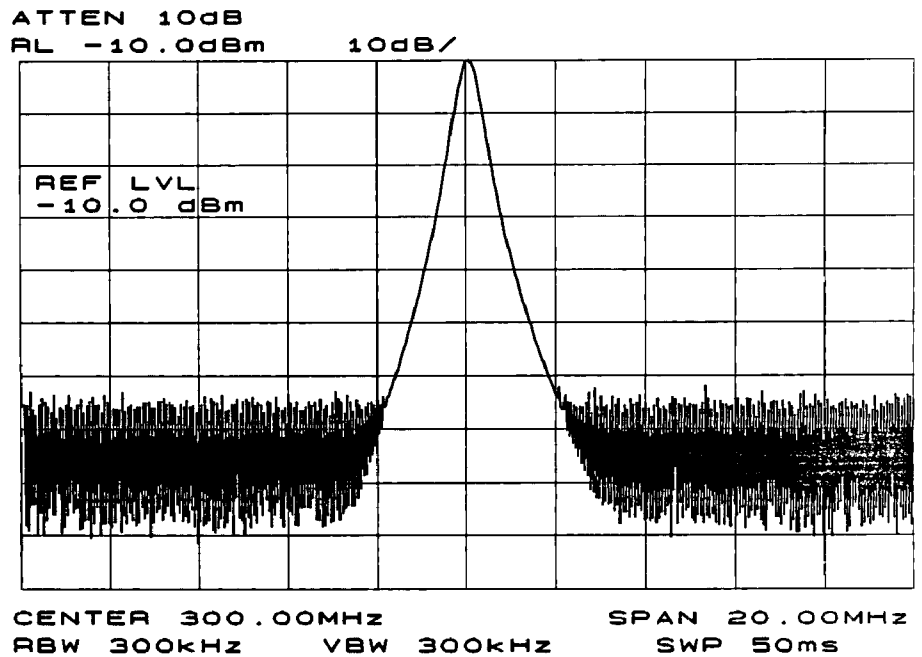

Figure 1-7. Signal Peak Set to Reference Level
- Set the amplitude. Generally, placing the signal peak at the reference level provides the best measurement accuracy. To adjust the signal peak to the reference level (Figure 1-7), press **AMPLITUDE**, then key in **10 -dBm**, or use either the step keys or the knob. Using the knob is the easiest way of fine-tuning the signal peak to the reference level, which is at the top of the screen.